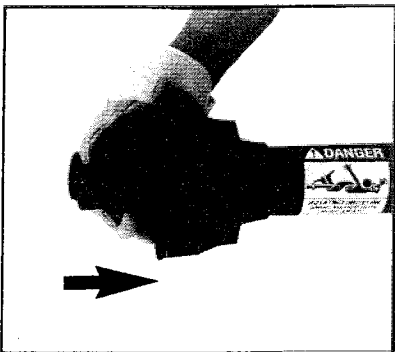

FIG. 5 - RETRACT RING FOR INSTALLATION
STEP 12: Make sure the tractor engine is shut off, then connect the driveline, PN 7571, to the tractor PTO. The driveline locks on with a retractable retaining ring coupling device. Slide the ring back for installation (see FIG. 5). Make sure the retracted retaining ring snapped back and locked on the tractor PTO.